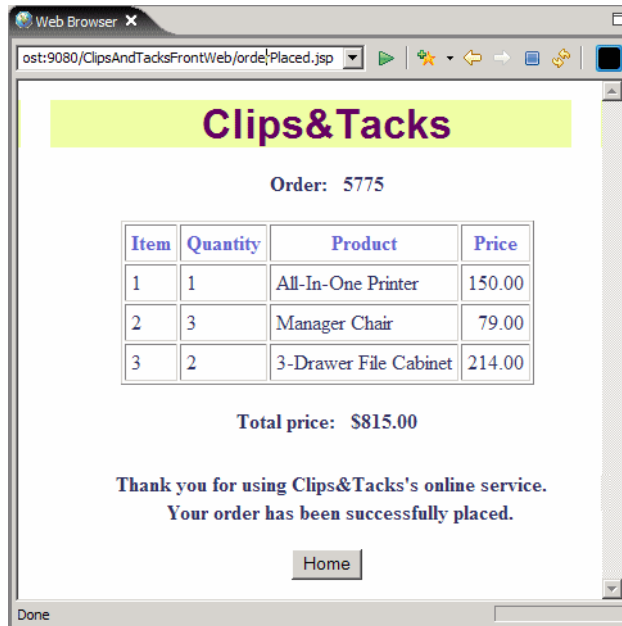

Figure 9-45 ClipsAndTacks: Order confirmation
- ▶ Click *Place Order* and the order is placed and a confirmation is issued (Figure 9-45).